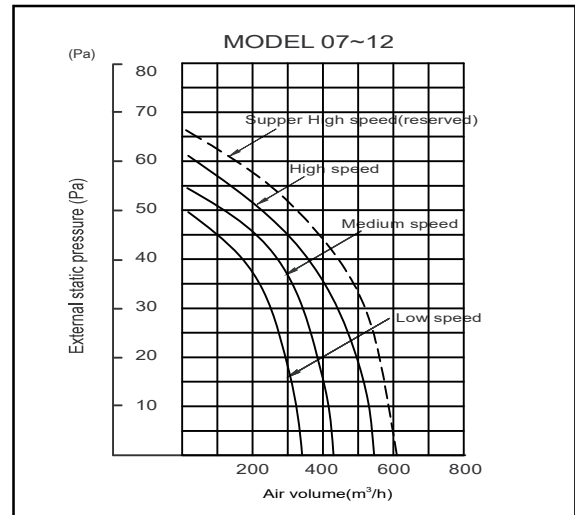
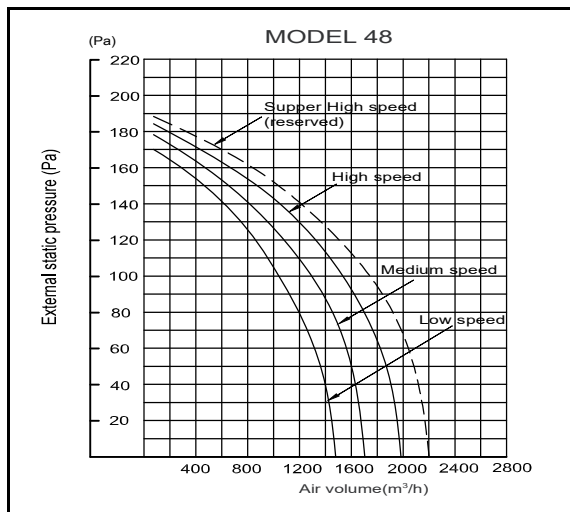

Fig.6-2
Fig.6-7
3. Before installing the air duct, ensure that the static pressure of the air duct is within the permitted range of the indoor unit (Refer to the IDU technical manual). Figure 6.2 to Figure 6.7 show the static pressure curve for indoor units.